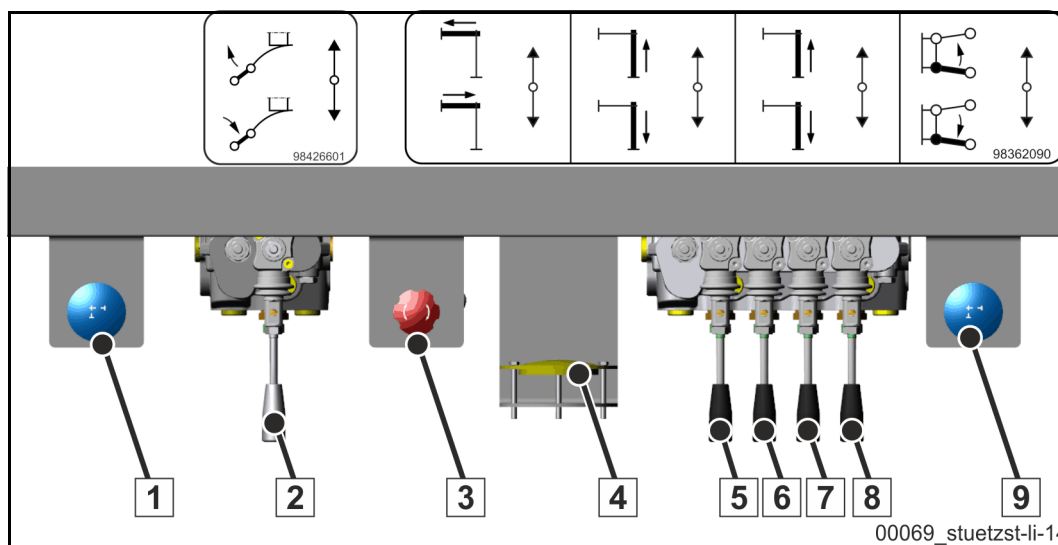

Fig. 147 Example: Outrigger control (S56SXF/S65SXF)
First, the folding element on the front bow outrigger has to be extended completely using the control lever (2) and the release button (1) (Fig. 147). Only then can the bow outrigger be extended horizontally.
Caption (Fig. 147)